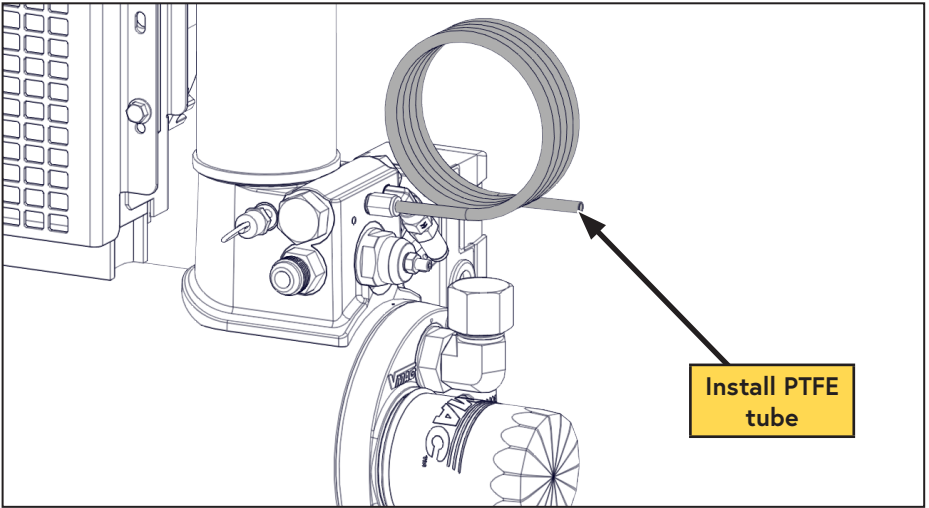

Figure 33 — Tubing Installation
- Connect the 1/4 in PTFE tube into the push-to-connect fitting installed in the WHASP Tank (Figure 33).